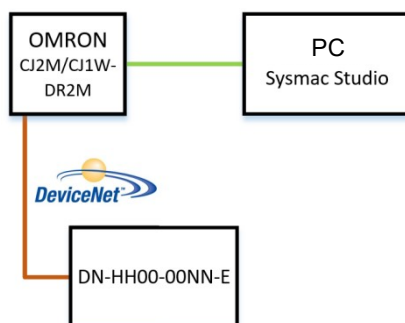

Figure 5-5-1 Communication connection diagram
**Tip:** There are two configuration methods for communication between CX-One and EX-1010: manual and automatic. For details, please refer to items 4 and 5 in section 5.3.1.
1. Communication connection diagram, as shown in Figure 5-5-1 shown.